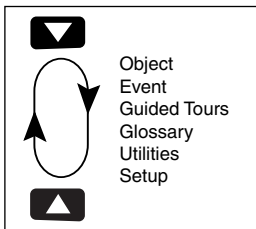

Fig. 20: Menus set in a loop.
It is important to understand that menu selections are set in a loop (Fig. 20). This means that pressing the Scroll Down key (7, Fig. 2) cycles down through all the available options within a given category, then returns to the first option. The Scroll Up key (6, Fig. 2) cycles up through the options in the opposite order. Note that this capability is a quick way to get to an option that is near the bottom of the list. The following example demonstrates this capability.